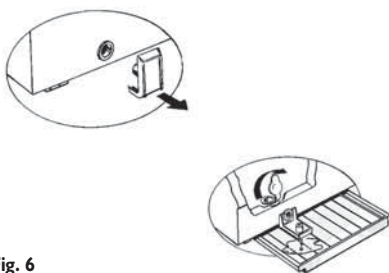

Fig. 6
- Remove the internal defrost water drain plug (depending on model) (**Fig. 6**)
- Remove the external defrost water drain plug (depending on model) and reposition it as shown in the **figure 6**
- Place a bowl beneath the drainage channel to collect the residual water. If available, use the divider (**Fig. 6**)